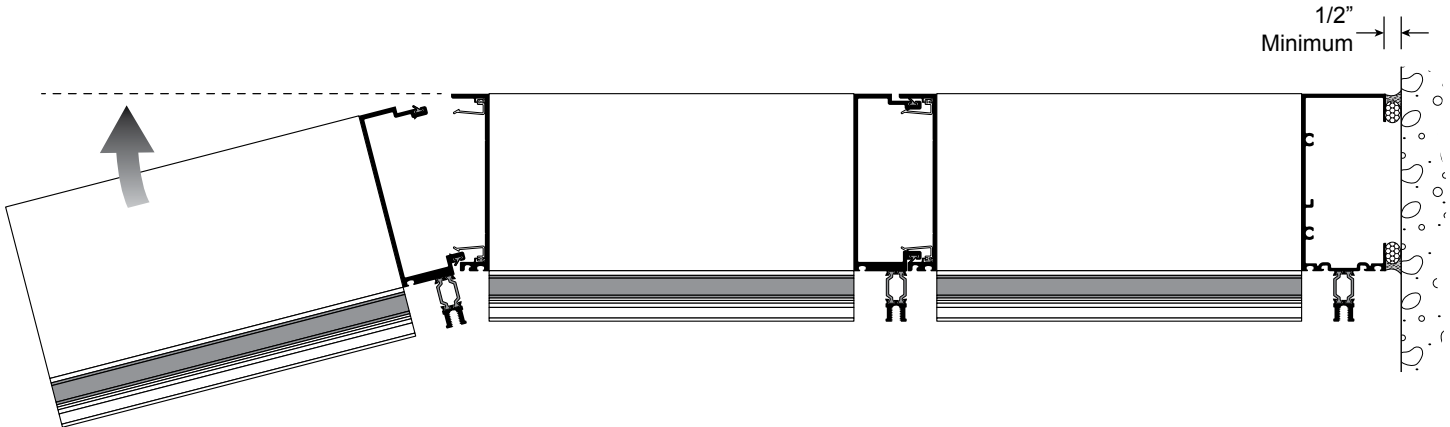

Fig. 39.1
- iv. At the mid-span anchor, temp the verticals in place, ensuring they are plumb and level. Use a shim at the vertical mullion splice, if applicable, to maintain the correct joint size. See **Fig. 39.1**
- A. Install the next bay by engaging the mullion halves together, ensuring that the bottom of the mullion halves align. Anchor bay to structure as noted above when plumb and level. See **Fig. 39.1**.